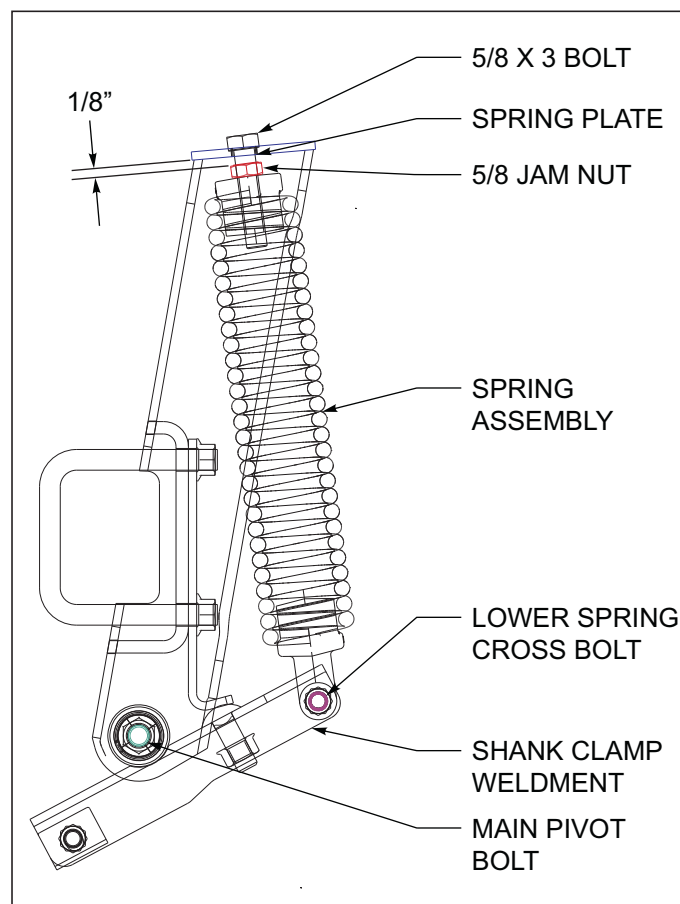

Figure 4-11: Spring Adjustment
3. When adjusting/assembling the spring assembly, tighten the upper spring bolt, but leave approximately 1/8" gap above the spring jam nut **See Figure 4-11**. This will leave the proper clearance for the spring to pivot. Lock the jam nut against the top of the spring, not the top of the mount. Likewise do not over tighten the lower spring cross bolt. Remove any slack in the bolt, but still allow the lower spring to pivot freely.